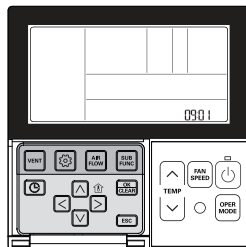

figure 1.
* If selected as the operation 'slave', it displays **[SLAVE]** in the remote controller screen as shown in figure 1.